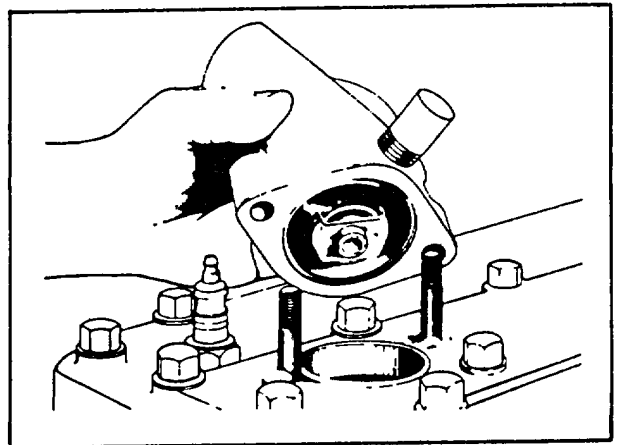

Figure 7. Replacing Thermostat
5. Assemble new gasket to cylinder head, position water outlet elbow on studs, and secure with two nuts and lockwashers (Figure 7).